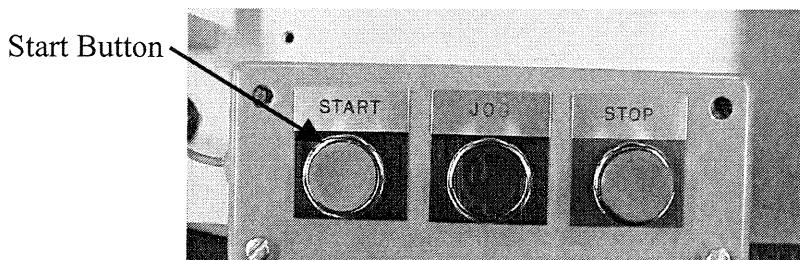

Figure 7.0
4.2.3 Inkjet Base Control Box Description (see Figure 7.0)